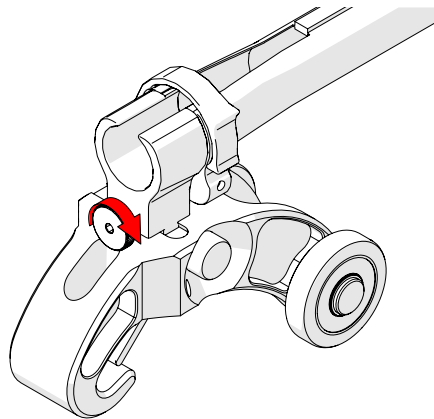

Fig. 88 - Tighten knob
2. Once centred on the Dovetail QuickLink, tighten the cable management's dovetail mount knob (Fig. 88).